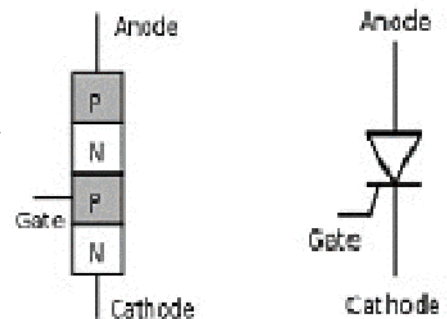

Fig.6.6. SCR - structure and symbol
The SCR is a three terminal semiconductor switching device which is probably the most important circuit element other than diode and transistor. SCR can change AC to DC and at the same time it can control the amount of power to the load. Apart from a normal diode SCR has a third terminal called the gate for controlling the rectification. SCR consists of four semiconductor layers and three pn junctions. It can be considered as an ordinary rectifier (PN-junction) and a junction transistor (NPN) combined in one unit to form pnpn device as shown in fig. 6.6.
Fig.6.6 shows the symbol of SCR. Three terminals are taken- one from the outer P-type material called Anode (A), second from the outer N-type material called Cathode (K) and the third from the base of transistor section called Gate (G). In normal operating conditions of SCR, anode is held at a high positive potential with respect to cathode and the gate at a small positive potential with respect to cathode.